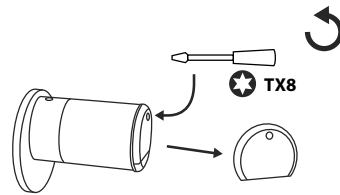

Fig. 2
- Using the TX8 screwdriver provided, loosen the screw on the inner side of the door at the front end of the knob and open the cover. The screw can only be unscrewed up to the opening of the cover and will not fall out. (Fig. 2).